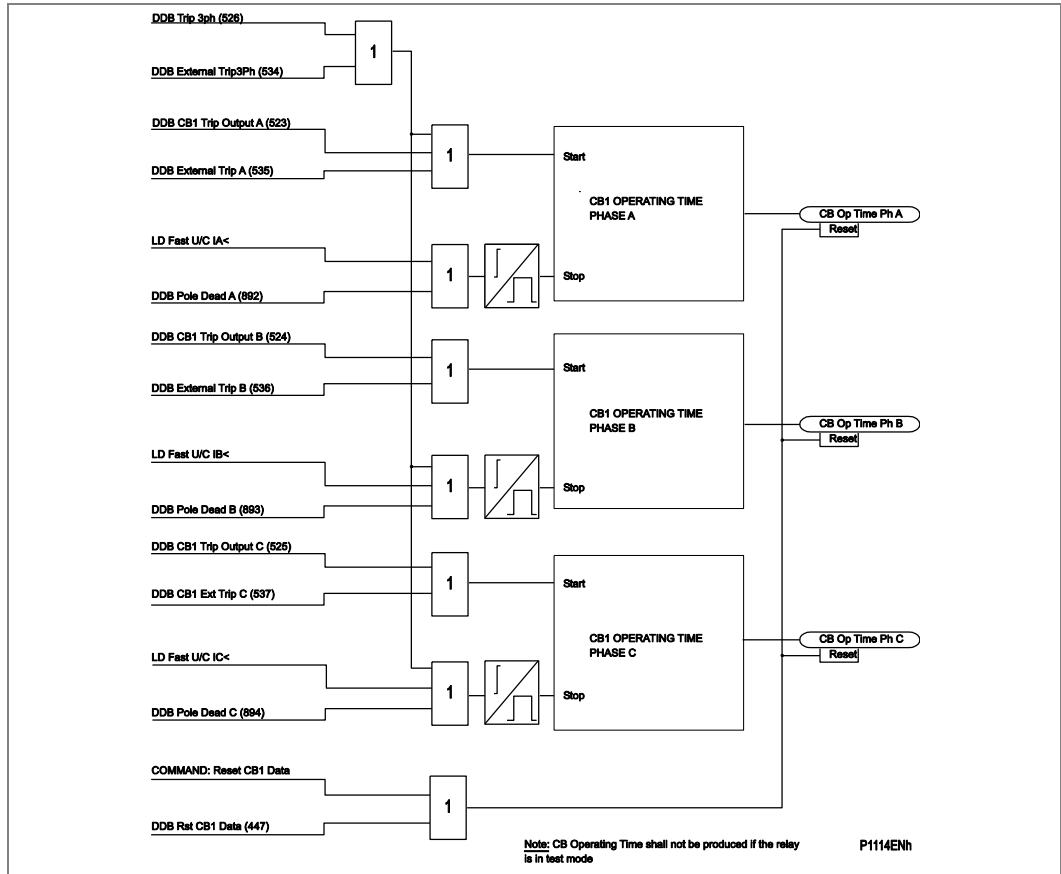

Figure 130 - CB1 condition monitoring – operation time
- Figure 130 - CB1 condition monitoring – operation time